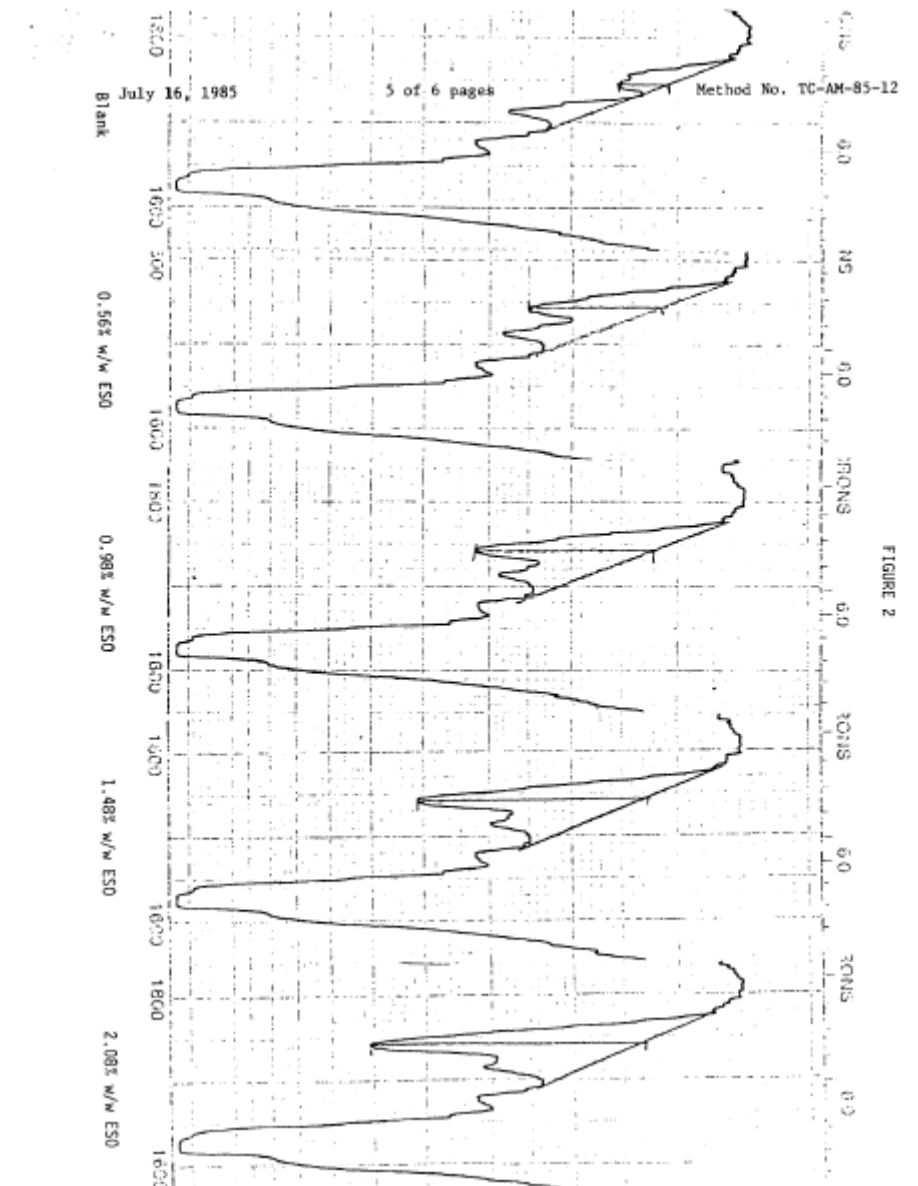

FIGURE 2
7.3.2 Determine absorbance for prepared standards and blank as described in Sections 7.1 and 7.2. (Figure 2)